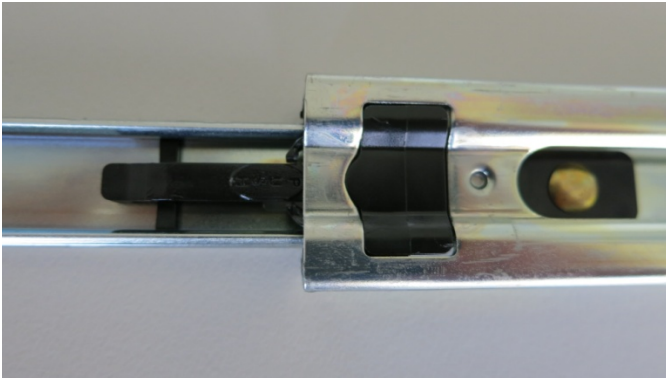

Figure 70 – Separate Rack Slides
2. Separate the slide rail assembly by pressing the black plastic clips in the slide rails to remove the inner section of the rail (refer to Figure 70).